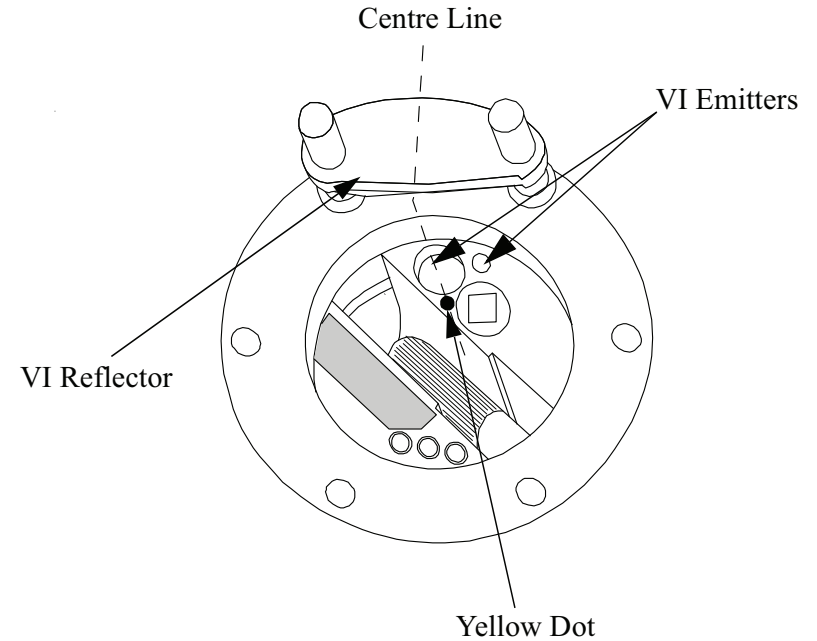
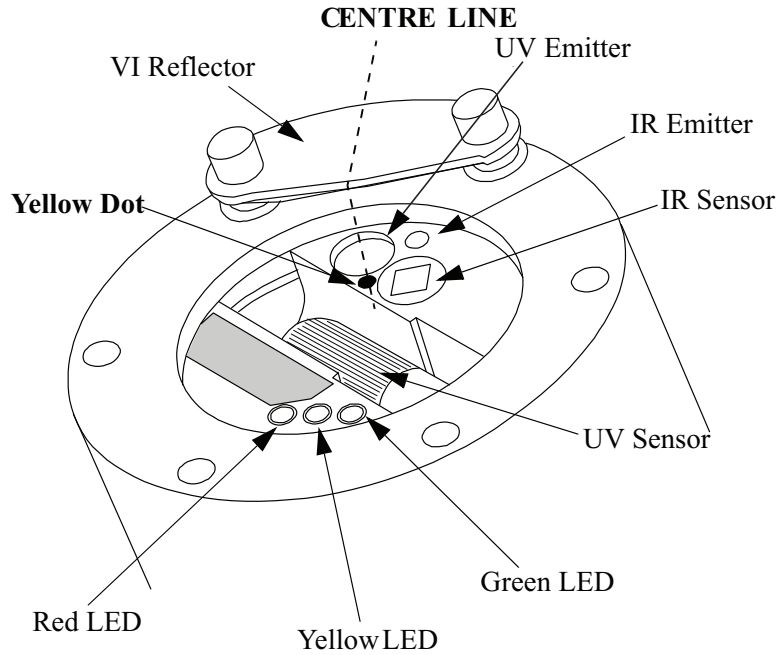

Figure 3. Position of VI Reflector
Figure 6. Detector Viewing Windows (Non-heater version shown)
3. Slide a DIP Switch to the ON or OFF position. Refer to Figure 6 and Table 3 for instructions.
It is extremely important that the VI reflector is centred over the yellow dot. Refer to Figure 3 or Figure 6